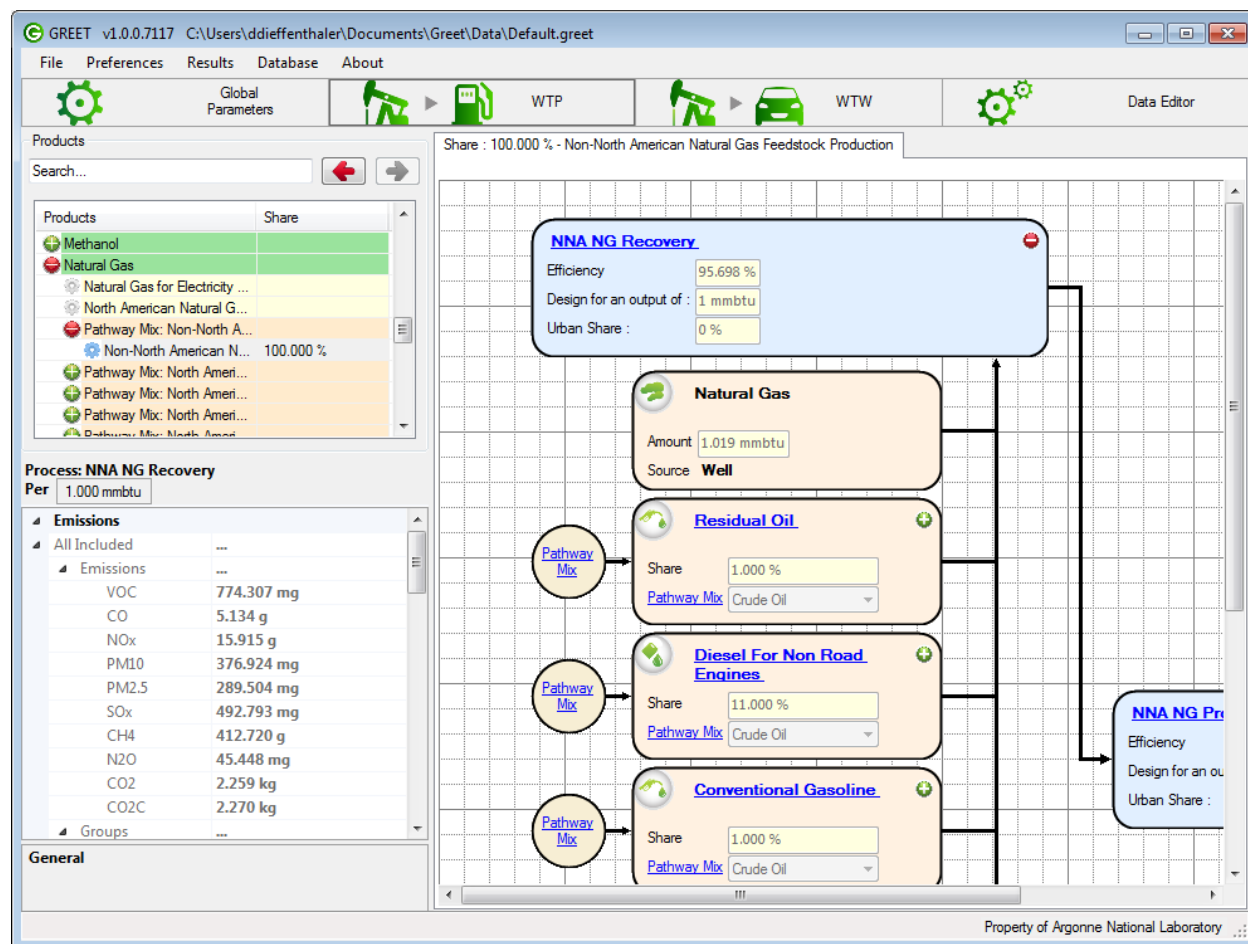
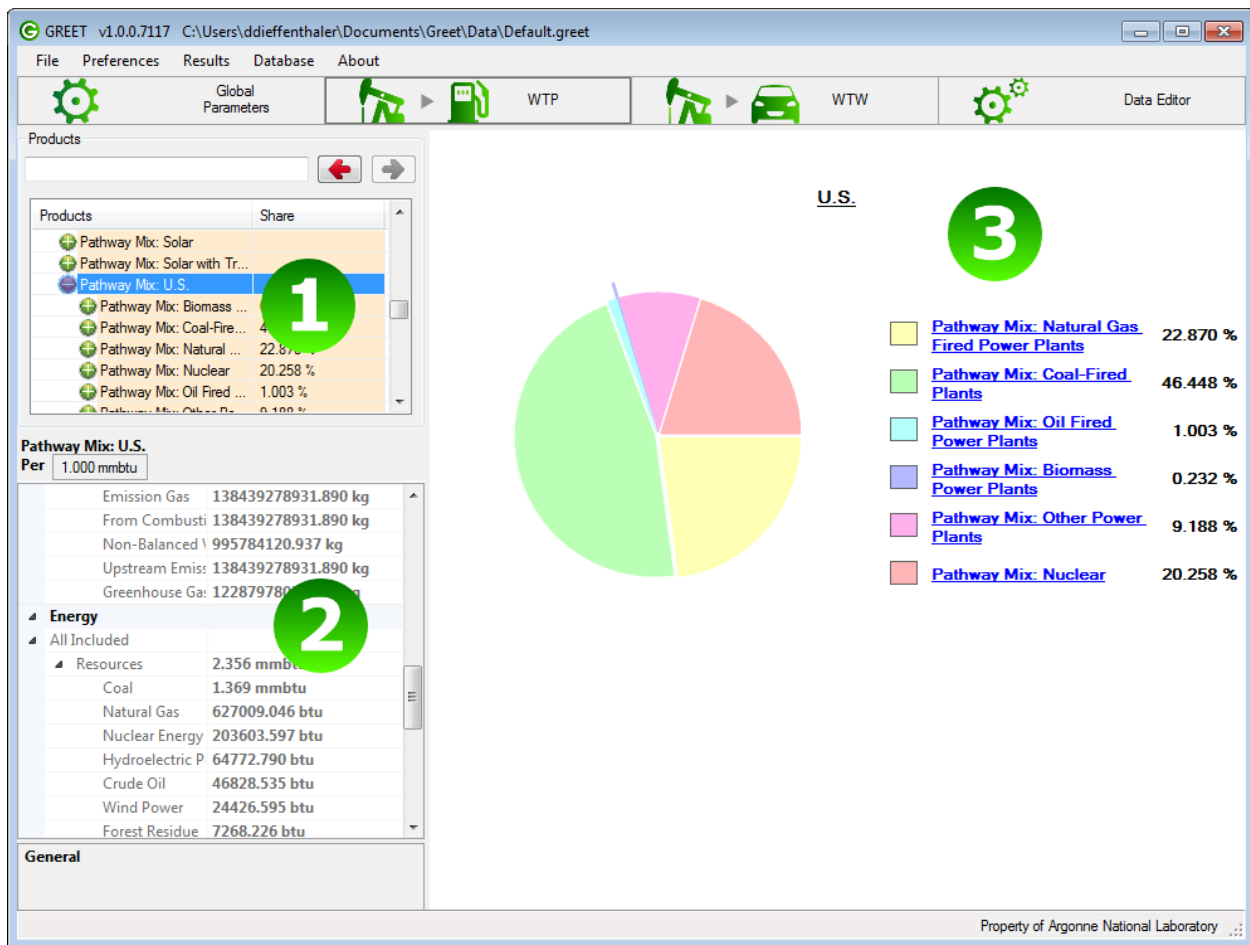

Figure 12: Well-to-Pump Pane Showing the Representation of a Pathway
Figure 13: Electricity Produced in the United States Averaged before Distribution by Power Lines
The WTP pane has 3 zones, as shown on Figure 13. Zone 1 represents the Pathway-Mix tree. Zone 2 shows the results associated with the selected pathway. To select a pathway, expand a resource node or a Pathway Mix until you've reached an item that is not preceded by a plus or minus sign. In the example above, "Non-North American Natural Gas Feedstock Production" is selected and represented in Zone 3. Zone 3 shows either a representation of the pathway or a Pathway Mix. Figure 12 shows a pathway represented in the explorer and Figure 13 represents a Pathway Mix.
Getting to see more details: Say we would like to see the results for the Pathway Mix for U.S. electricity production. You can type electricity in the search box and expand the Electricity item in the list, then expand the Pathway Mix: U.S. as shown in Figure 13.
- Pathway Mix: When a Pathway Mix is selected in the Pathway-Mix tree (Zone 1 of Figure 12).
- Pathway: When a pathway is selected in the Pathway-Mix tree (Zone 1 of Figure 12).
- Process: When a process is selected in the pathway representation (Zone 3 of Figure 12).
- Step: When a transportation step is selected within a transportation process (Zone 3 of Figure 12).
- Input: When an input is selected in an expanded stationary process (Zone 3 of Figure 12).
- Technology: When a technology is selected in an expanded stationary process input (Zone 3 of Figure 12).